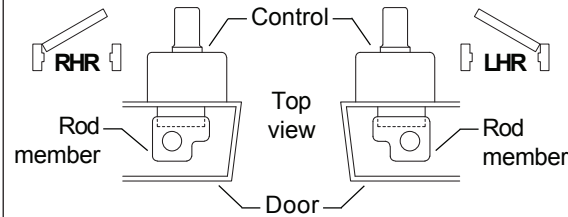

Figure 1. Rod member position for door handing.
- A. Slide rod member onto top rod (see Figure 1).